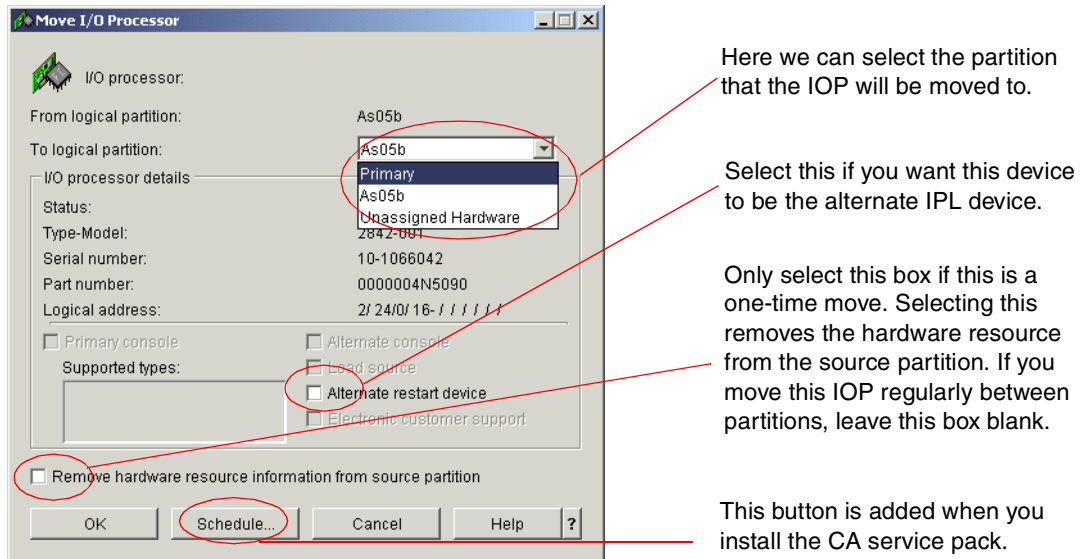

Figure 8-44 Move I/O Processor display
4. In the Move I/O Processor window (Figure 8-44), select the To logical partition system to which you want to move your IOP. In this example, we selected the primary partition.
Click **Schedule** to continue. If the Schedule button doesn't appear in the window as in Figure 8-44, then the Operations Navigator software is not at the correct level. See 8.2.1, "Software requirements" on page 194.